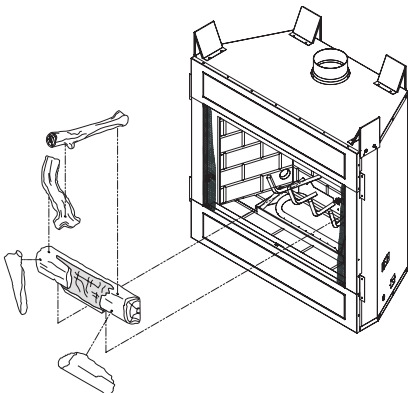

Figure 3 - Removing Logs Set
- Remove logs. Carefully lift top logs straight up until pins are clear of lower logs (see Figure 3). Continue removing logs one at a time. The rear log is very heavy and should be lifted with both hands. Place logs away from your work area. Be careful not to damage logs.